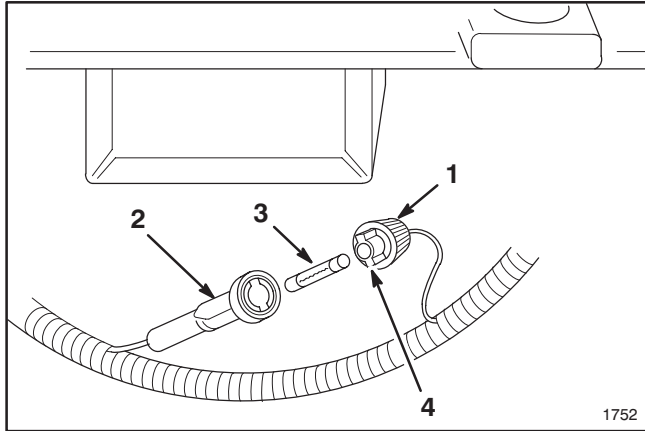

Figure 28
1. Push the two fuse holder sections together. Rotate fuse holder cap to open fuse holder (Fig. 28).